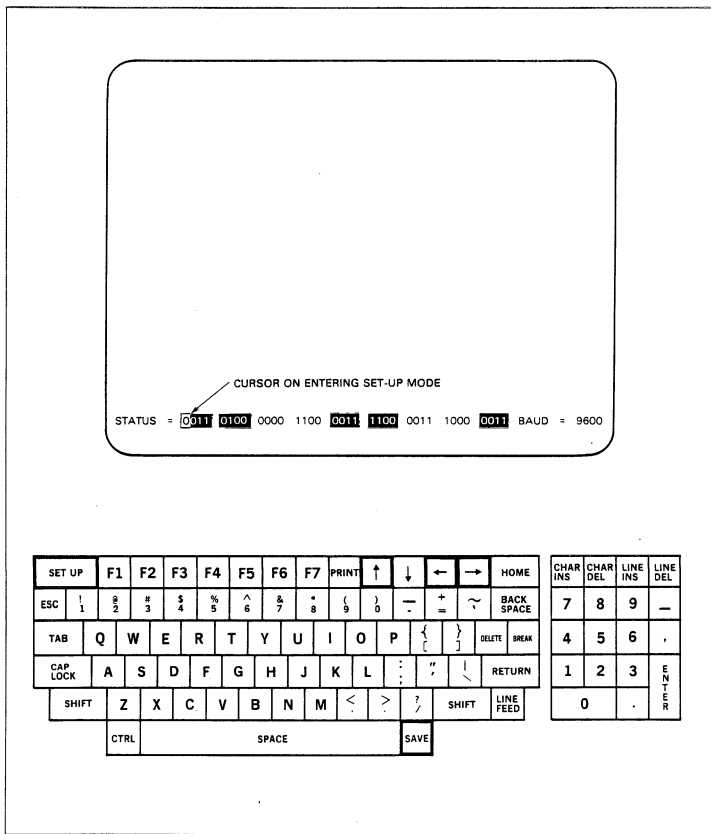

Figure 2-3. ADM 22 Set-Up Mode Display and Associated Keys (Default values indicated)
The operating characteristics of the ADM 22 are controlled by firmware "switches" that are displayed on the status line when Set-Up key is depressed. Figure 2-3 illustrates the display of the status line and the standard default settings. The status line is broken into nine four-bit "nybbles," one thru nine, and baud = xxxx, nybble 10. Each nybble has four bits, or switches, that can be set to "0" or "1". Table 2-1 summarizes the functions that are selectable in nybbles 1 thru 10 when in Set-Up Mode.
**Selecting Functions** - When Set-Up Mode is entered the cursor will move to bit 3 of nybble 1, refer to figure 2-3. The cursor is moved to the bit to be changed by the ← and → cursor control keys. Pressing the ↑ key when the cursor is positioned over the desired bit (the "=" for nybble 10) will alternately select "0" or "1" for that function (sequentially select the various baud rates for nybble 10). Any invalid keystroke will sound the audible alarm and the character will be ignored.